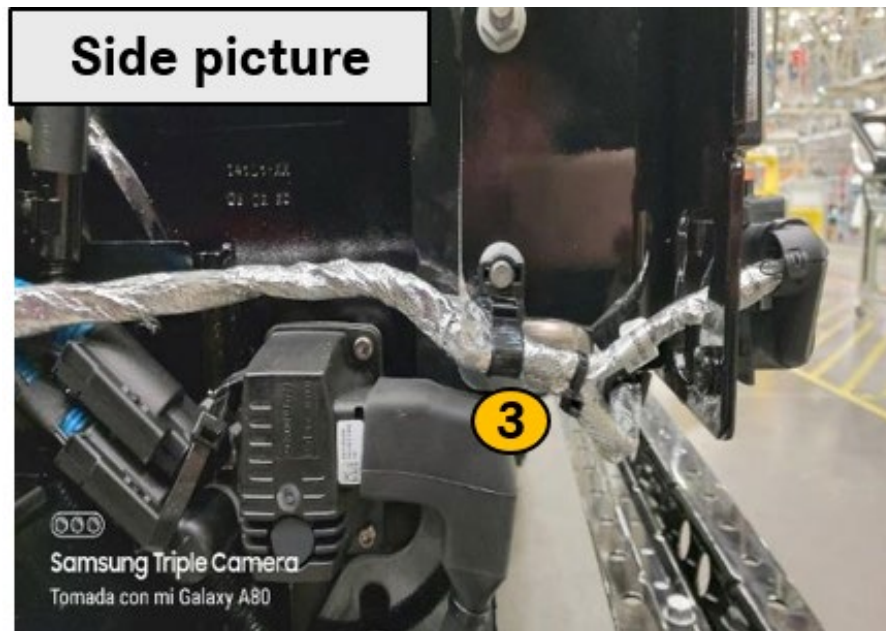

Fig. 4, Harness Secured with Strap Stud Mount Tie
5.2 Reroute and properly secure the harness to eliminate the possibility of chafing against the radar or ATD brackets. Reference figures 4 and 5 for guidance on how to properly secure the SRRR harness.